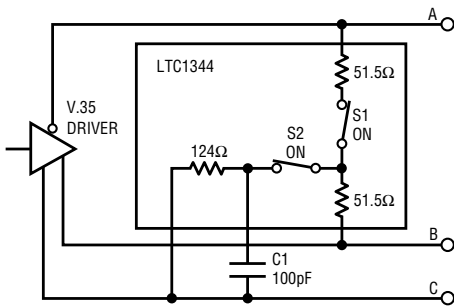

Figure 10. V.35 driver using the LTC1344
The generator differential impedance must be 50Ω to 150Ω, and the impedance between shorted terminals (A and B) and ground (C) is 150Ω ±15Ω. For the generator termination, switches S1 and S2 are both on and the top side of the center resistor is brought out to a pin so it can be bypassed with an external capacitor to reduce common mode noise, as shown in Figure 10.